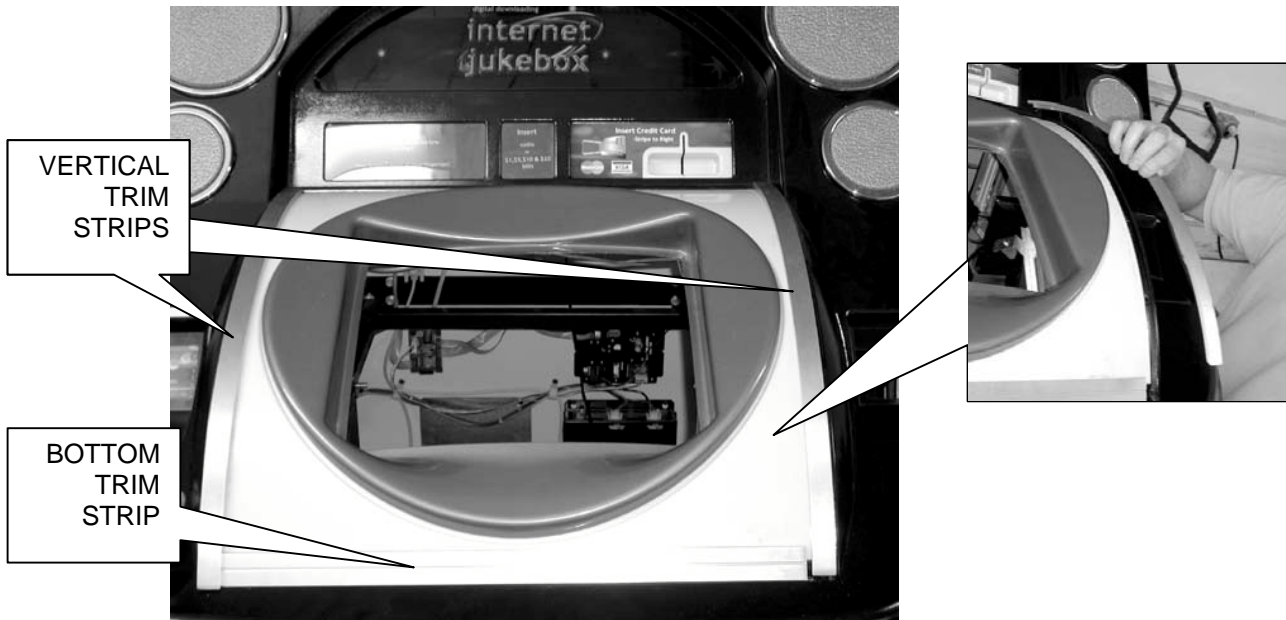

Figure 12 - Bezel Retainer Strips
4. Lower the jukebox door and remove the vertical and bottom trim pieces. Refer to *Figure 12*.